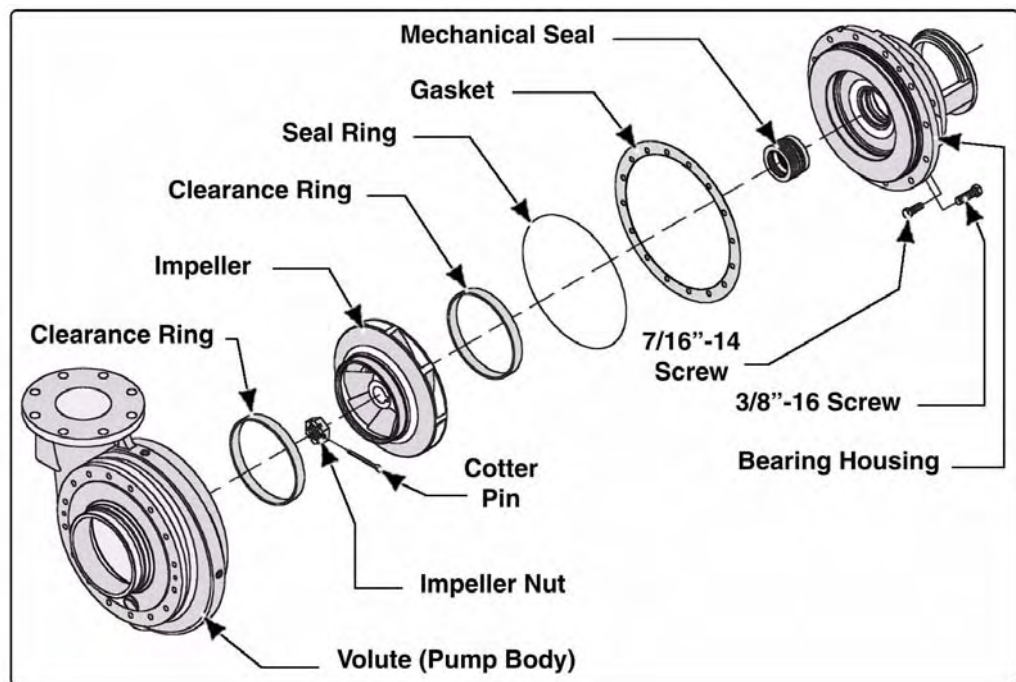

Figure 6-6: Volute and Pump Overview
6. Inspect the front clearance ring for wear and replace accordingly. (See Figure 6-6: "Volute and Pump Overview" on page 81.)
The volute is sealed to the bearing housing with a gasket and separate seal ring. The gasket must be replaced whenever the joint face is disturbed and the seal ring must be inspected for splits, cracks, flat spots, etc. and replaced accordingly. (See Figure 6-6: "Volute and Pump Overview.")
4. Remove the sixteen (16) 3/8"-16 screws to dismantle the volute from the bearing housing. Pull the volute body from the assembly being careful not to damage the impeller or scratch the sealing surfaces of the volute. (See Figure 6-6: "Volute and Pump Overview.")
5. If necessary, insert the two (2) 3/8"-16 jacking screws into the volute and tighten the screws **EVENLY** to unseat the volute, seal ring and gasket from the bearing housing.
(See Figure 6-6: "Volute and Pump Overview" on page 81.)
(See Figure 6-2: “8FG / DSD Pump Parts Identification” on page 73.) Also see Figure 6-6: “Volute and Pump Overview” on page 81.
3. With the bearing housing properly supported, remove the sixteen (16) 3/8"-14 screws that secure the assembly to the volute. (See Figure 6-6: "Volute and Pump Overview" on page 81.)